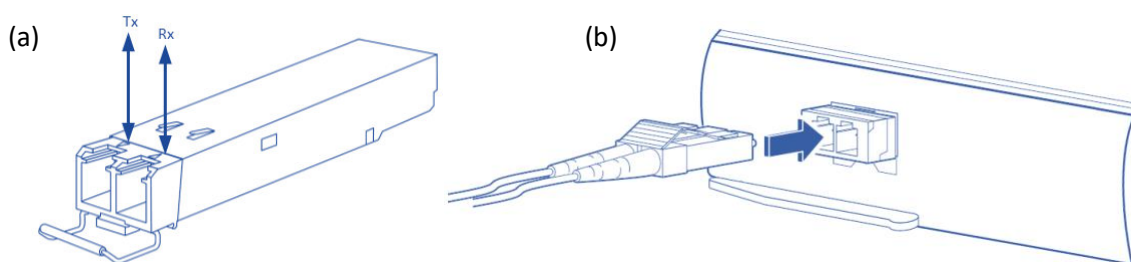

Figure 15 – Interface connecting to the SFP+ Module
- d. On Fiber channel 0 both the TX and RX fiber cables must be connected. On channels 1 through 3, only one fiber cable should be connected. This cable is connected between TX output (Marked with TX or Arrow outwards the SFP+) on the camera and RX input (Marked with RX or Arrow inwards the SFP+) on the Frame Grabber, as shown in figure 15 (a).
3. Insert the fiber cable into the module, as shown in figure 15 (b).
3. Open the bale clasp on the SFP+ module with your index finger, or a small flat-blade screwdriver, in a downward direction, as shown in figure 15.